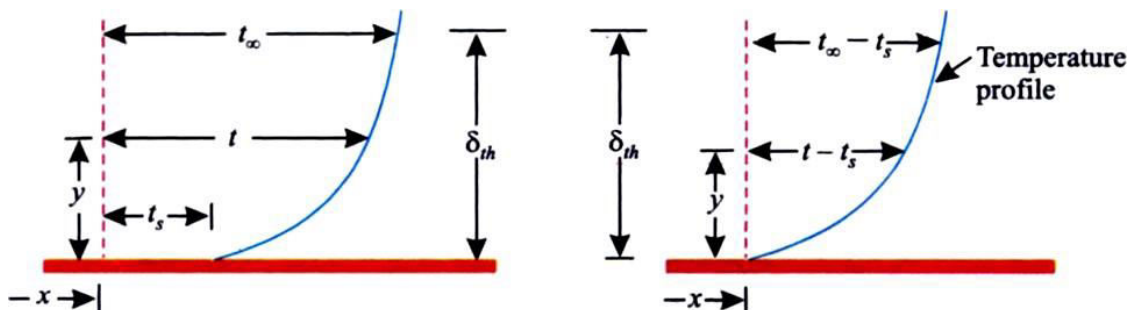

Fig. 7.5 Temperature profile in T.B.L. when warm fluid flows over a cold plate
- If the approaching free stream temperature t_∞ is above the plate surface temperature t_s , the thermal boundary layer will have the shape as depicted in Fig. 7.5.